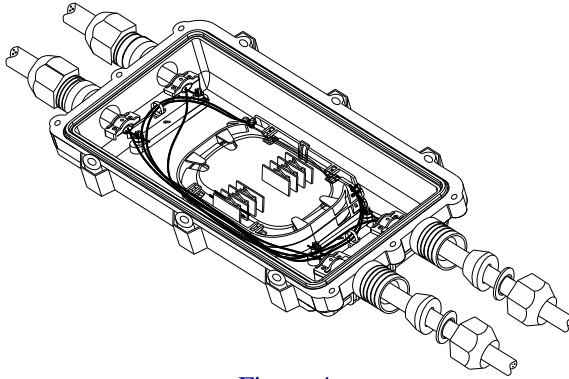

Figure 4
- Seal the cover of seal fitting. See figure 4